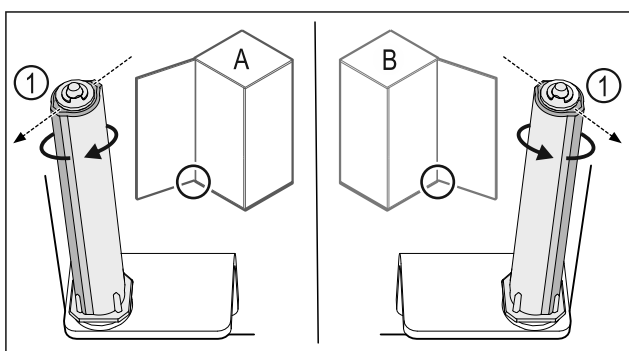

Fig. 31 Left-hinged (A) / Right-hinged (B)
- Turn the closing system against the resistance until the bar of the closing system Fig. 31 (1) points outwards.